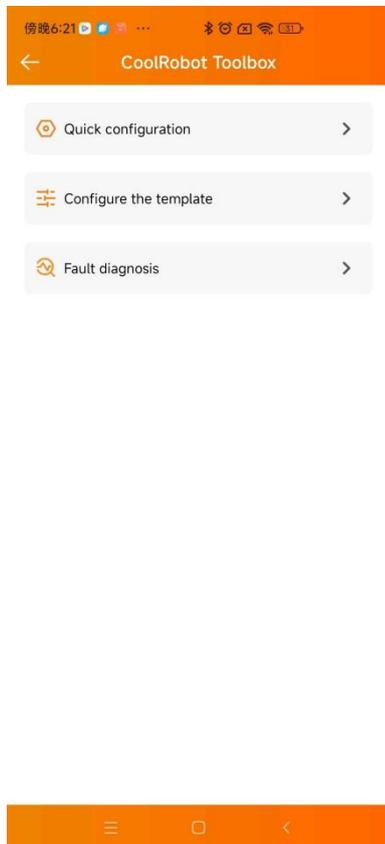
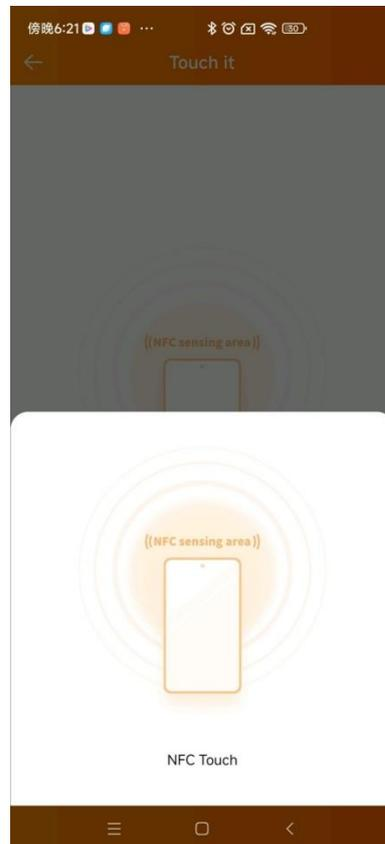
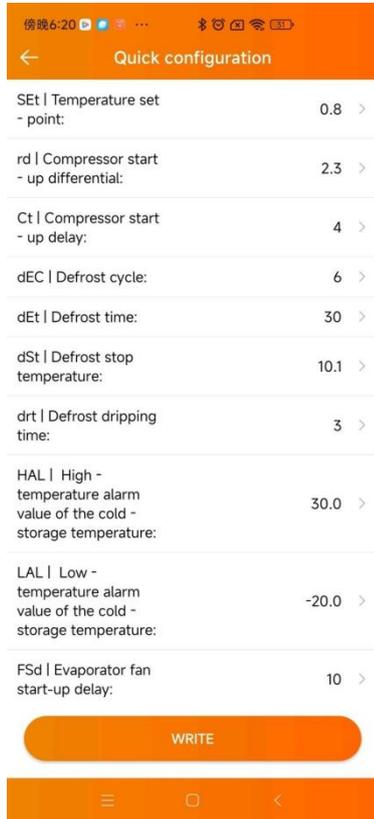

Fig.13 Select Quick Configuration
Fig.14 Touch the device
Fig.15 The parameters read by NFC
2.Click to enter the NFC CoolRobot Toolbox interface and select "Quick Configuration"(as shown in Figure 13). Touch the NFC area of the device to read the device parameters(as shown in Figure 14).After the parameter reading is completed, you can set the parameters in batches,Then click "write"(as shown in Figure 15). Touch the NFC area of the device with your phone to send the parameters to the device. Once the parameter setting is completed, a success interface will be displayed(as shown in Figure 16).